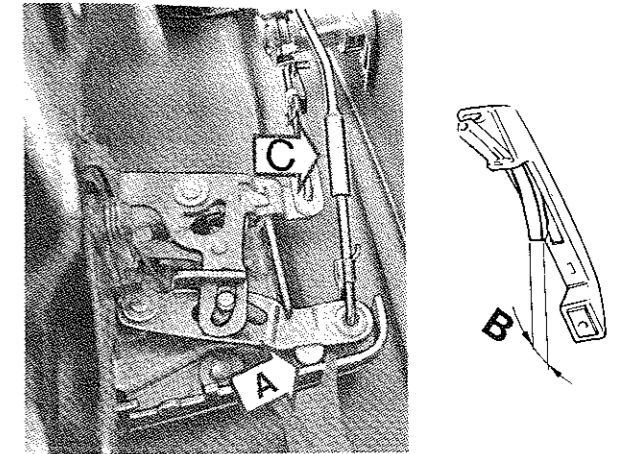

Fig. 11.16 Exterior handle link adjustment (Sec 18)
- 12 Note that the exterior handle link rod contains an adjustable section. The length of the rod should be set so that the latch stop contacts its base, and the handle tongue protrudes at least 22 mm (0.87 in) (Fig. 11.16).